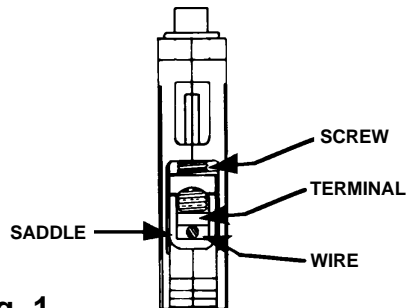

Fig. 1
2. Fasten saddle with screw (Fig. 1) to terminal as shown.